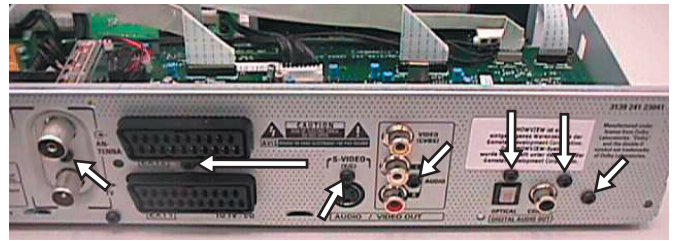

Figure 4-12
- 2) Remove 7 screws on the Rear panel 228 as shown in Figure 4-12.